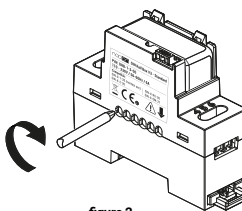

figure 2
- Screw the 6 screws of the relay switch to fix both elements together (see figure 2).